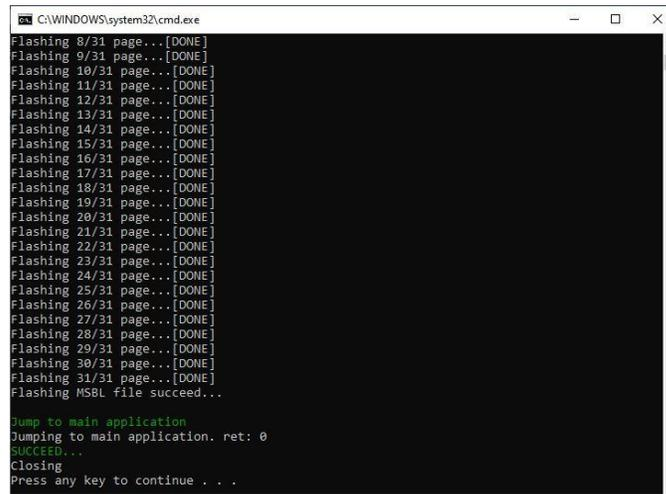

Figure 10. Flashing the .msbl to the MAX32674C
5. After pressing ENTER, the program begins flashing the MAX32674C with the latest firmware. A successful flash looks like Figure 10, and 'SUCCEED...' displays near the end.